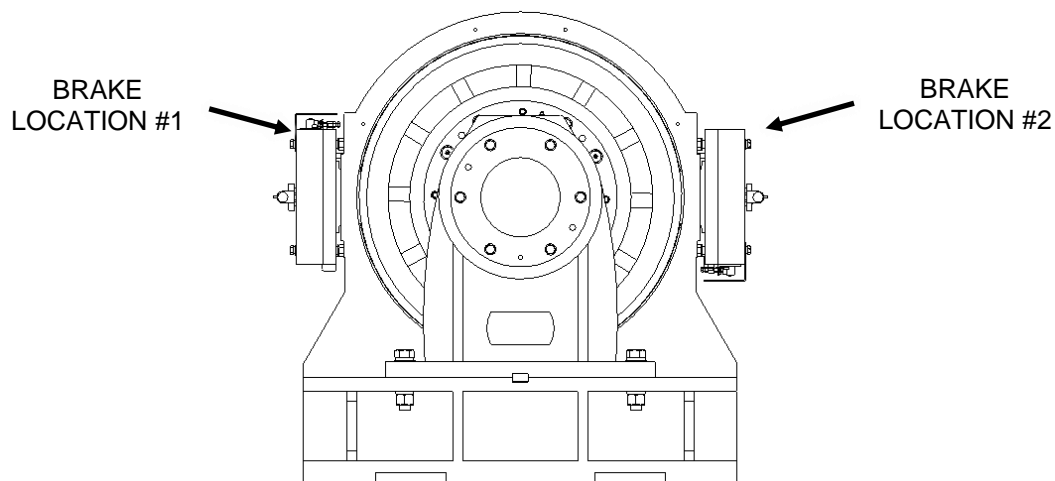

Figure 4
- The machine brakes are mounted in 4 locations as shown in Figure 4.